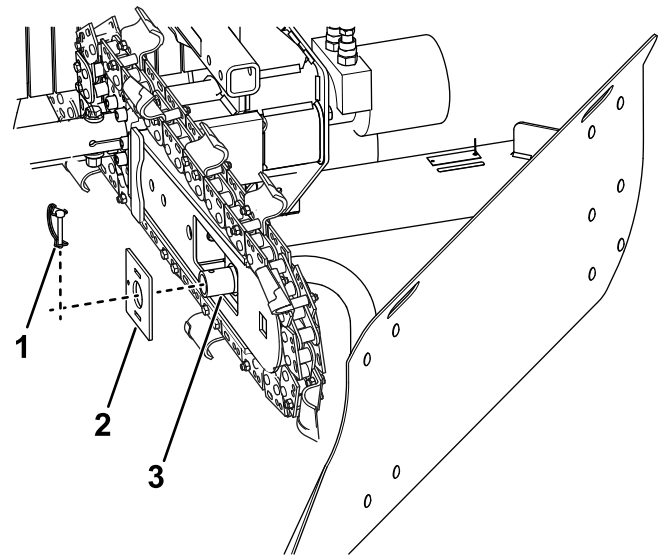

Figure 4
3. Remove the lynch pin and mounting plate from the front mounting bracket (Figure 4).
5. Slide the mounting plate onto the front mounting bracket, securing it with the attached lynch pin (Figure 4).